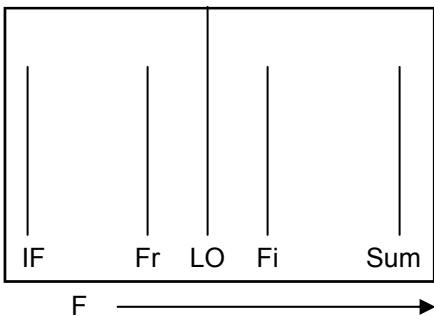

Figure 1
have to be set at  $118.300 \text{ MHz} + 10.700 \text{ MHz}$  or  $129.000 \text{ MHz}$ . It would then be sent to the mixer and on the output there would be  $129.000 \text{ MHz}$  (LO),  $118.3 \text{ MHz}$  (Fr),  $247.3 \text{ MHz}$  (Sum) and  $10.700 \text{ MHz}$  (IF). (See Figure 1) After the mixer we use a narrow-band filter (E) to reject everything but the  $10.7 \text{ MHz}$  IF signal output from the mixer. This works well because  $10.7 \text{ MHz}$  is far from the next highest frequency,  $118.3 \text{ MHz}$ , so it's easy to reject everything but the signal of interest. However, there is another signal you can receive that is  $10.7 \text{ MHz}$  above the LO frequency. This is called the image frequency, and can be a real hassle in radio designs. In this case we could receive not only  $118.3 \text{ MHz}$  but also  $139.7 \text{ MHz}$  ( $2 \times \text{IF} + \text{Fr}$ ). In this case this "image" is only  $700 \text{ kHz}$  outside the band of interest and is almost impossible to filter out.